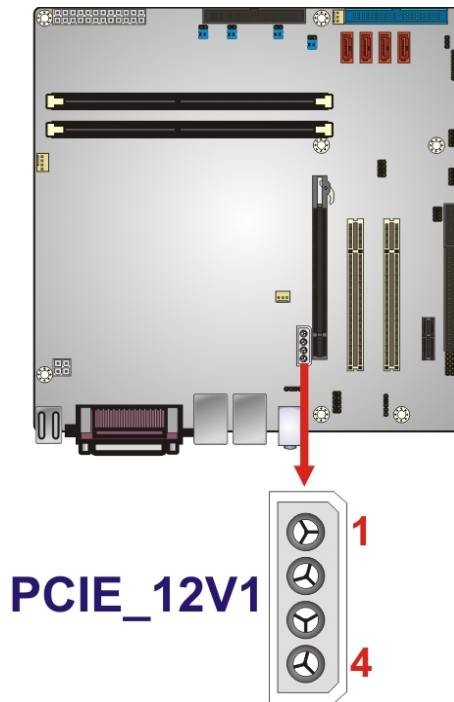

Figure 3-14: PCIe Power
- CN Location:** See **Figure 3-14**